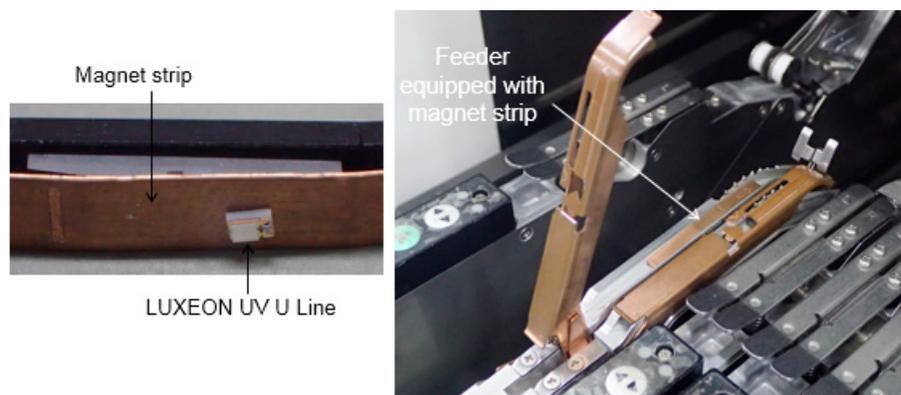

Figure 10. LUXEON UV U Line is held by the magnet strip (left). Feeder (e.g. Panasonic CM402) equipped with magnet strip (right).
- a. LEDs not sitting correctly in the pocket tape during pick and place process. Evaluate a feeder equipped with a magnet strip. See Figure 10.